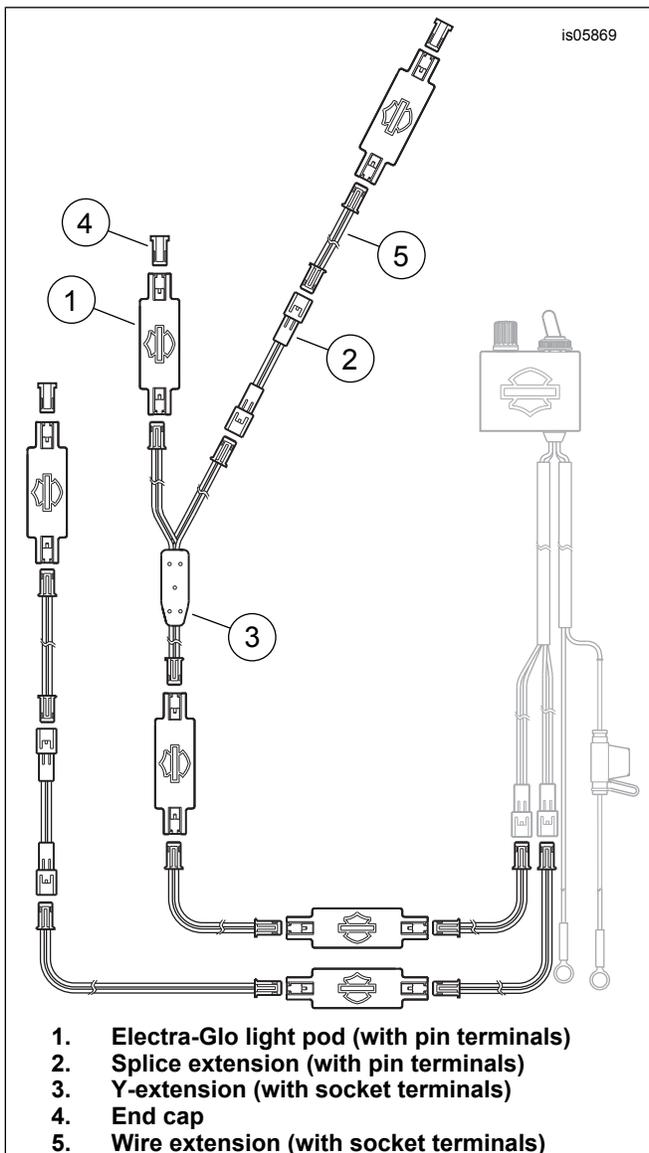

Figure 1. Light Pod Arrangement (Example)
2. See Figure 1. Combine wire extensions (5), Y-extensions (3), splice extensions (2) and end caps (4) as desired to assemble a circuit in series with the light pods (1) in the selected locations.